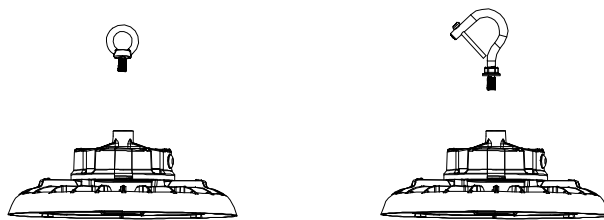

Figure1
1. Secure the hook into the fixture.(Figure1)